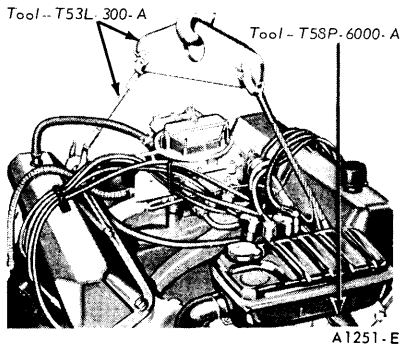

FIG. 51—Engine Lifting Brackets and Sling
19. Install the engine left lifting bracket on the front of the left cylinder head where the coil mounts. Install the engine right lifting bracket at the rear of the right cylinder head. Attach the engine lifting sling (Fig. 51).
2. Attach the engine lifting brackets and sling (Fig. 51). Remove the engine from the work stand.